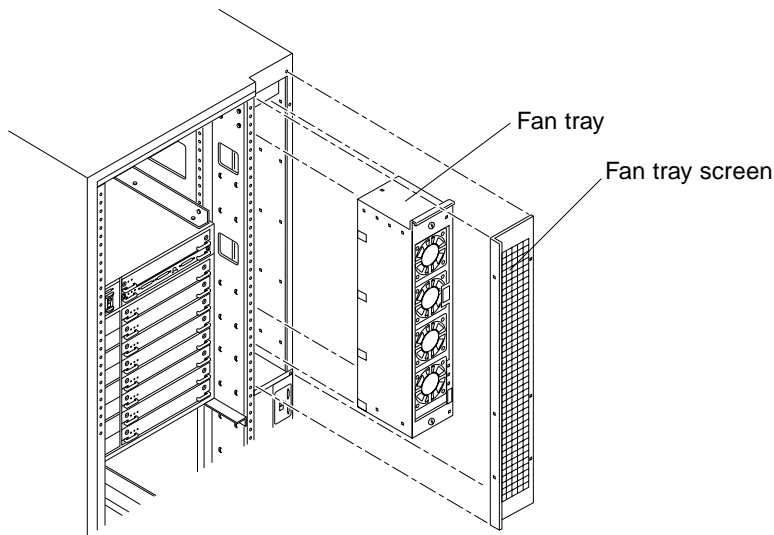

FIGURE 12-5 Removing the Fan Tray Screen and Fan Tray
1. **Loosen the four screws on the left and the four screws on the right of the fan tray screen (FIGURE 12-5).**